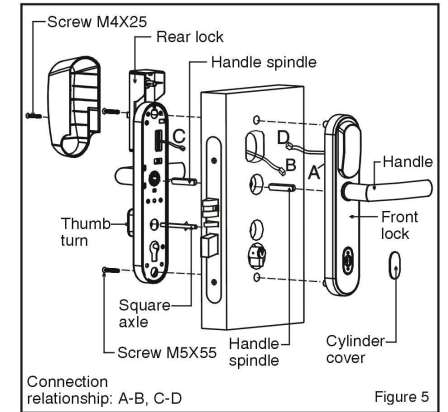

Figure 5
(2). As figure 5 shown, insert the lead-wire B into the socket A through the door hole and connect the wire C with wire D. Then insert the two handle spindles into the square holes on the rear lock and front lock respectively. And insert square axle into the square hole on the rear panel. Make sure the handle spindle and the square axle are installed on the right position. Then fasten the front lock and the rear lock with 2 pieces of pentagon screw M5X55; and use the screw M4X25 to fix the battery case cover.